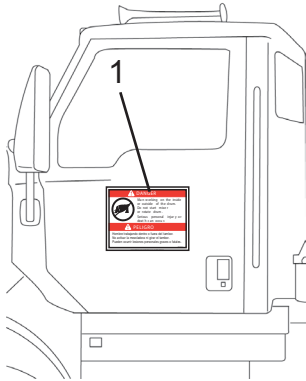

Figure 2
- 9. Place magnetic “DANGER” signs (Figure 2, Item 1) on both doors: “Man working on drum. Do not start Mixer or rotate drum. Serious personal injury or death can occur.”